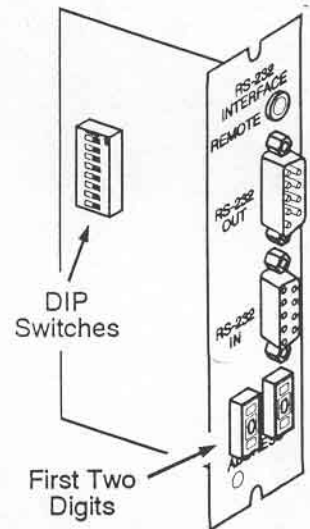

Figure 4-10. DIP Switches
- a) With the interface pulled away you can easily identify the DIP switch unit. See Figure 4-10. The DIP switch unit sets the communication parameters when the projector is plugged in.